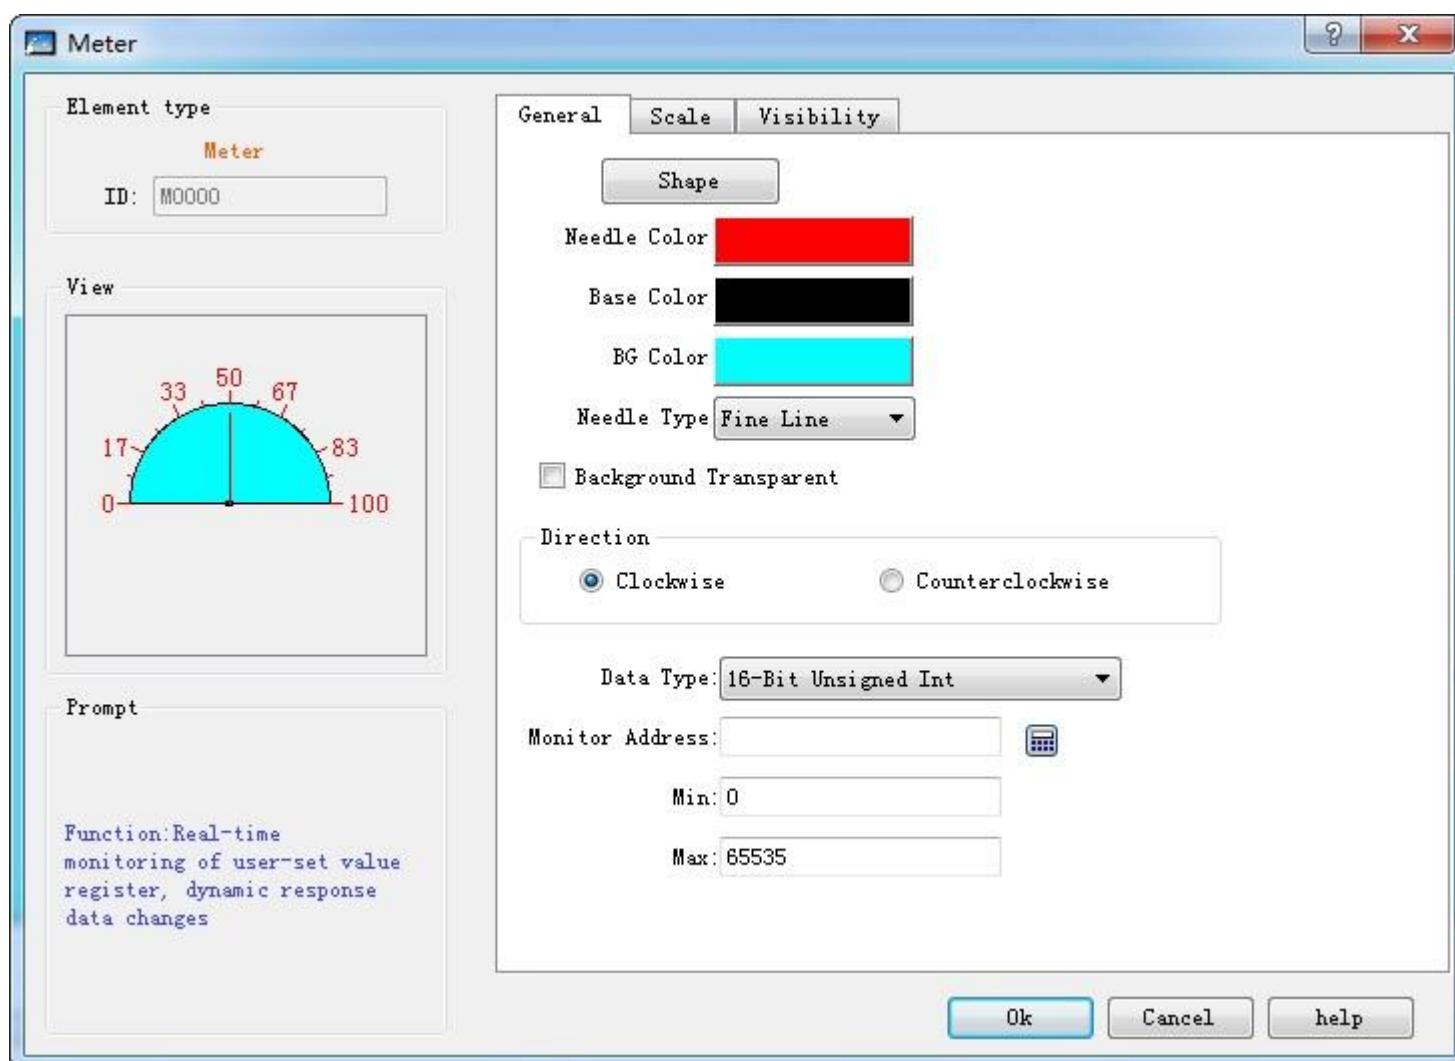

Figure 4-62 Meter dialog
1. Select the Meter control icon in the toolbar; then the dialog box shown in Figure 4-62 appears: